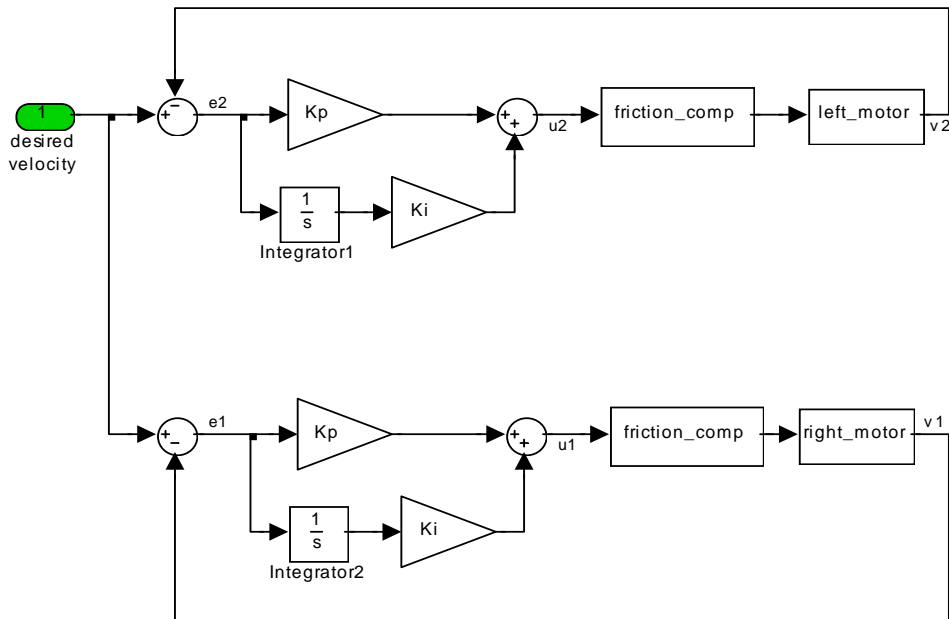

Figure 1: Independent PI control loops for the right and left motors.
Exercise 2: Closed-Loop Robot Driving with Decoupled Control Loops (See Figure 1).
1. Add another case statement to check if the second switch is down and all others are up. If so, your case statement will calculate u_1 and u_2 from two different PI control loops. You will be implementing the code equivalent to the diagram in Figure 1. As a start, use $K_p = 3$ and $K_i = 5$. These are just suggestions and the gains assume that all velocities are measured in tiles/second... you may modify them if you wish but you will almost certainly need to tune them better for later projects. Also, print a message to the LCD screen like "PI".